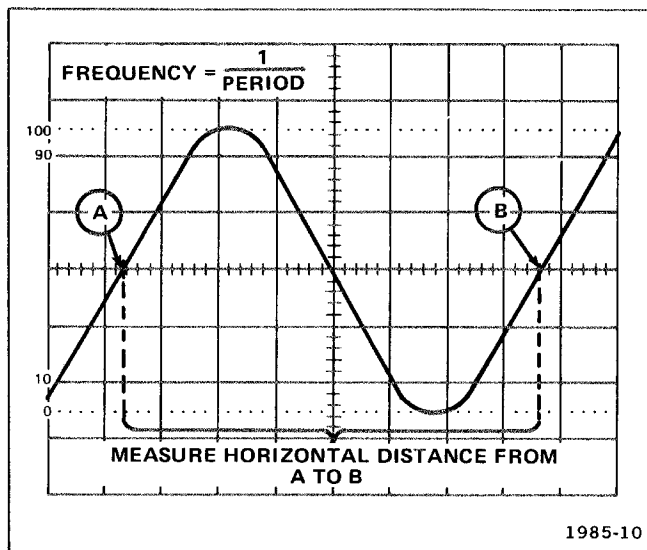

Fig. 2-5. Measuring the period and determining the frequency of a displayed waveform.
- 4) Set the TIME/DIV switches and 7B90P POSITION control for 1 complete cycle displayed within the center 8 graticule divisions as shown in Fig. 2-5.
- 5) Measure the horizontal distance in divisions over 1 complete cycle of the displayed waveform (see Fig. 2-5).
Example: Assume that the horizontal distance over 1 complete cycle is 7 divisions, and the TIME/DIV setting is 0.1 ms (see Fig. 2-5).